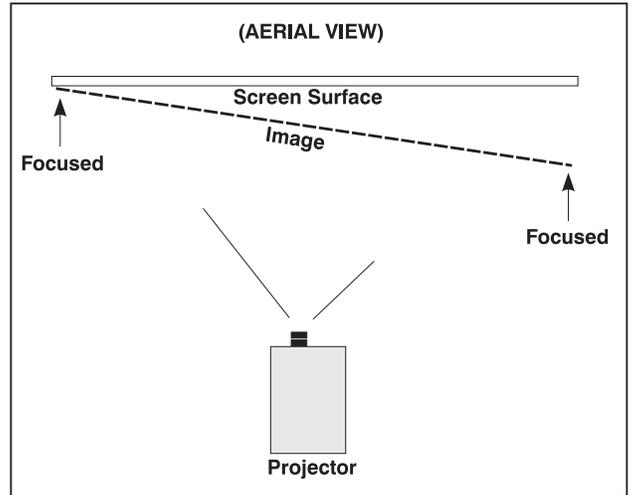

Figure 2.29. Example of Poor Left/Right Boresight
- If focus on the paper improves, this indicates that the right side of the image is focusing in front of the screen. See Figure 2.29.